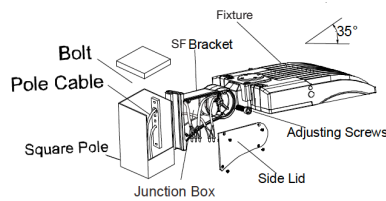
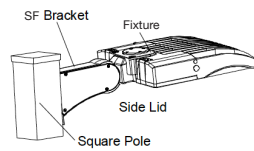
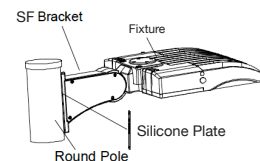

Fig. 13
Fig. 14
Fig. 15
1. Fix PM bracket to square pole with bolt, open the access cover of PM bracket, pull the wire into the junction box, and connect the wire correctly (Fig. 13).
2. Put the connected wire into the junction box, then cover the junction box (Fig. 14) Note: Adjustable angle is 0-35° (Fig. 13). Remove the silicone plate when installing the fixture on a round pole (Fig. 15).